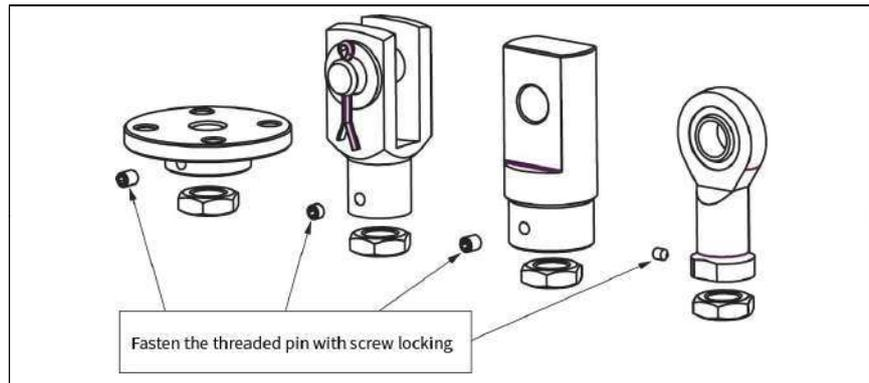

Fig. 9: Fix parts such as Fixing flange, Forked end, Pivot bearing end, Rod end, after setting the position.
3. Mount the screws for sizes 50, 100 and 150 of the ZE and Z series on the elongated holes with washers (e.g. according to DIN 1441). Mount the spindle head (see Fig. 9), fix the locking screws with screw locking (e.g. Loctite) and mount the lock nut (up to size 100).